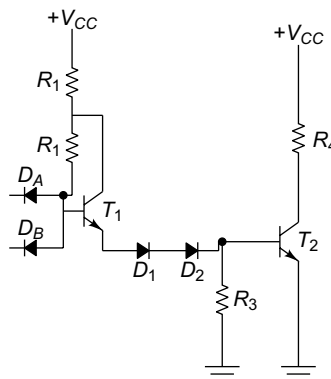

Fig. 6.56
20. Write the truth table of the DTL circuit as depicted in Fig. 6.56.